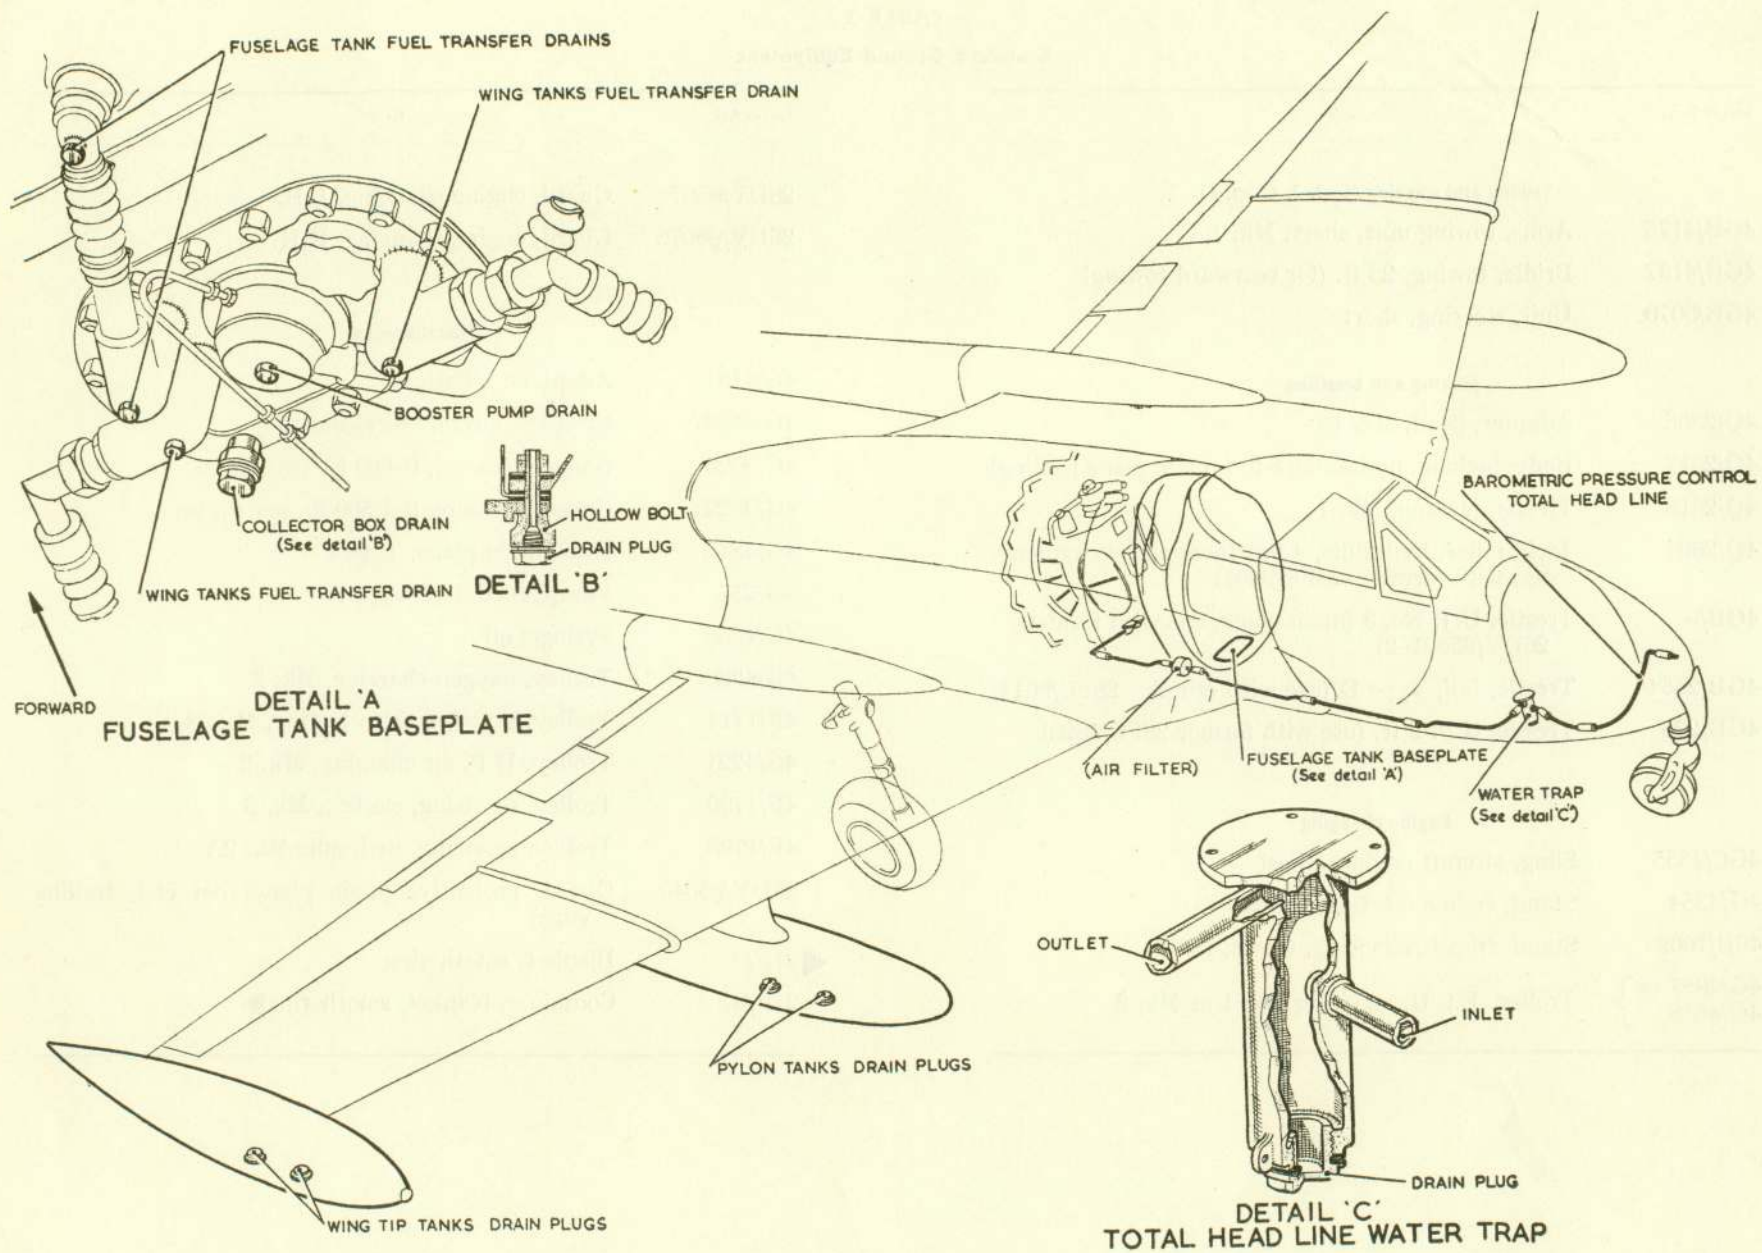

Fig. 5. Water drain points
Water drains (fig. 5)
B.P.C. total head line water-drain (fig. 5)